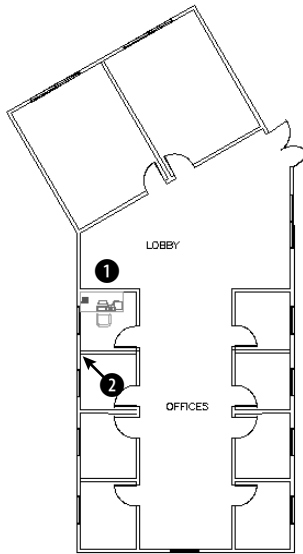

**Figure 18-29:** The office plan.
5.  Choose Paste from the Standard toolbar. At the Specify insertion point: prompt, pick ❶ in Figure 18-29. This action inserts the armchair in the lobby using the default scale and rotation.
10. Use Zoom Window to zoom in to the area around ❷ in Figure 18-29. At the prompt, pick ❷.